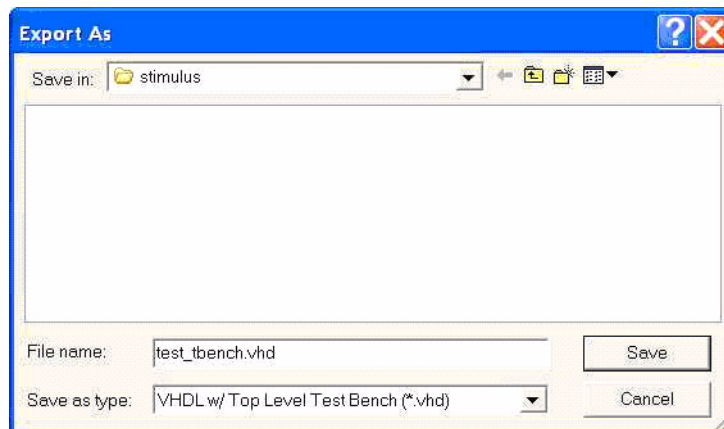

Figure 7-19. Export VHDL Testbench Save As Dialog Box
9. Select **VHDL w/ Top Level Testbench** in **Files of Type** and enter `test_tbench.vhd` for the file name, as shown in Figure 7-19.